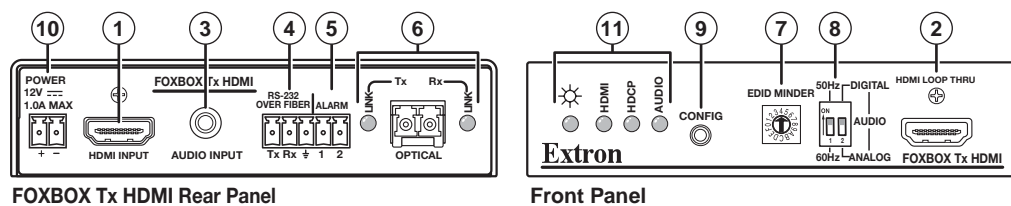

Figure 2. FOXBOX Tx transmitter connectors
⑦ **EDID Minder switch** — Set this switch to one of the positions below to select the source of the DDC or a specific resolution.
- **Position 0** — A user-recorded EDID that has been captured from the display connected to the HDMI loop-thru connector on the transmitter (item 2 on figure 2 on page 5) or manually imported via an **SIS command** to the transmitter.
⑧ **DIP switches** —
50 Hz / 60 Hz switch — This switch selects the vertical refresh rate of the resolution selected by the EDID Minder hex switch (item ⑦ on figure 2 on page 5). Up selects the 50 Hz rate and down selects the 60 Hz refresh rate.